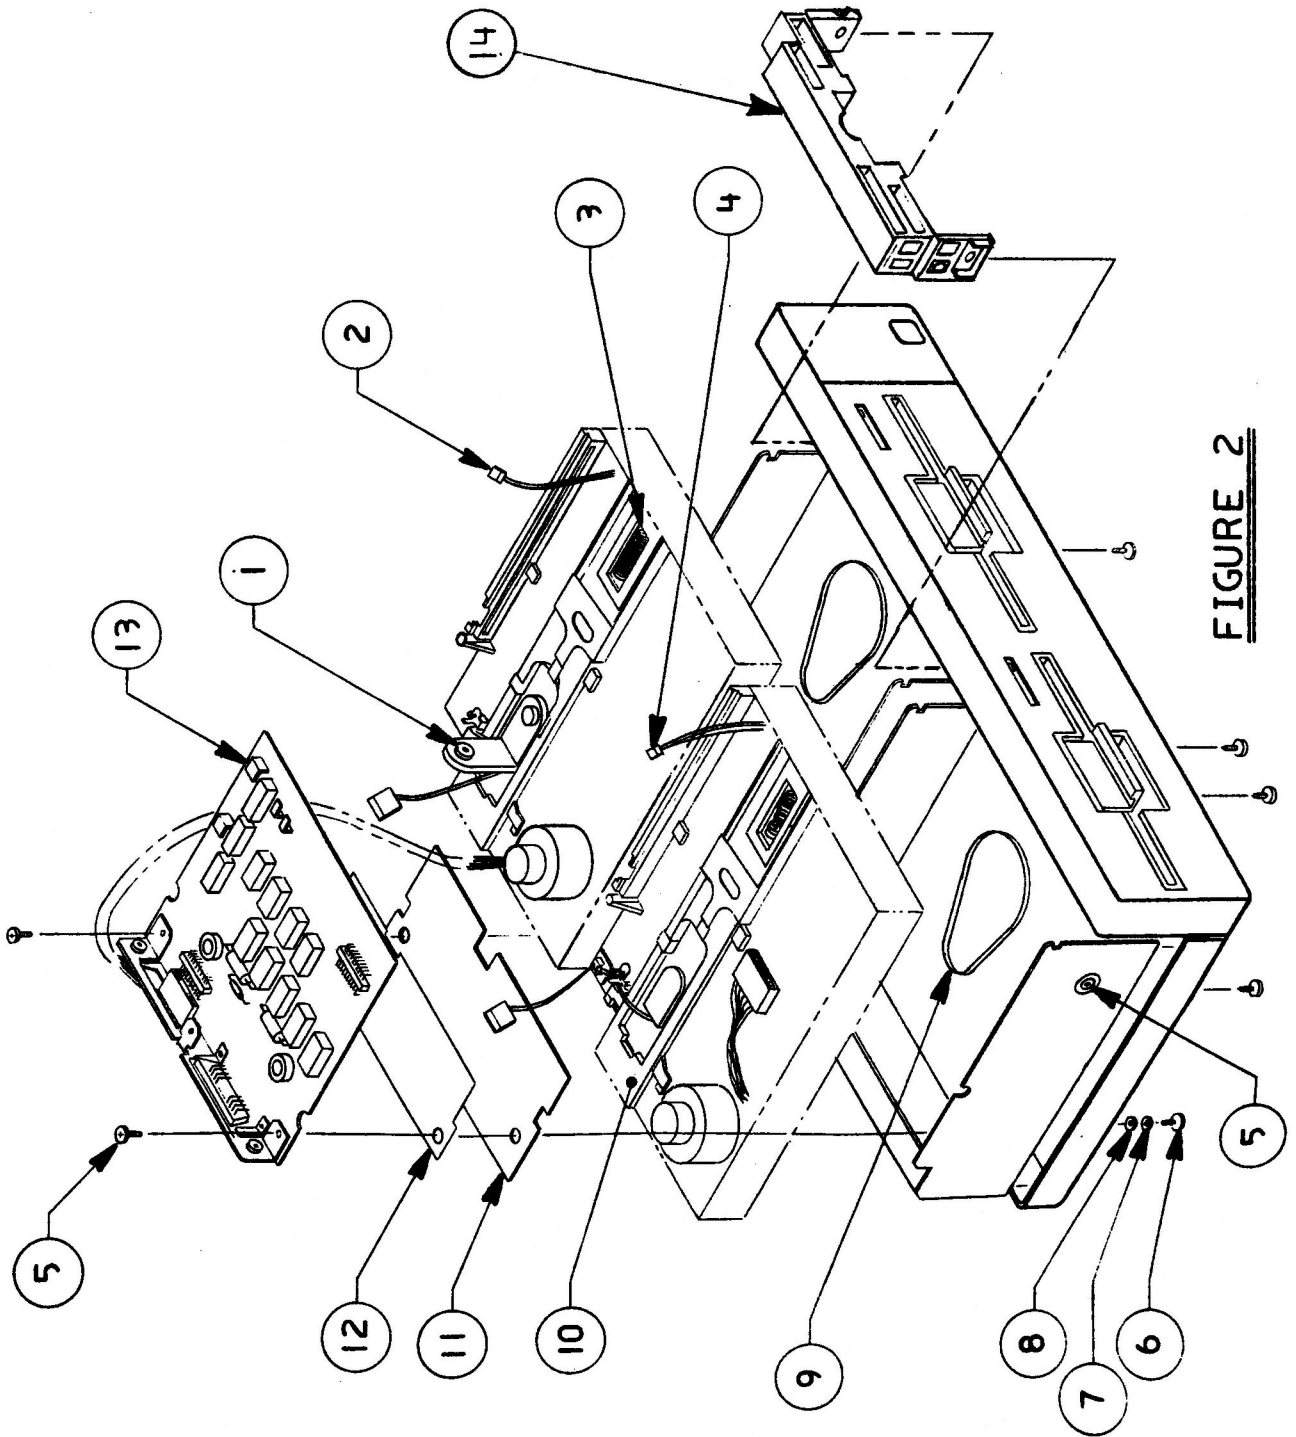

FIGURE 2
IPL.5	Internal Parts (Figure 2)
□ INTERNAL PARTS (Figure 2)